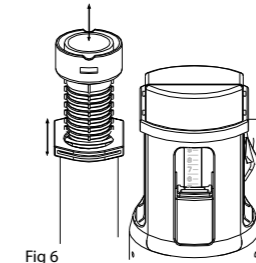

Fig 6
7. To set internal overflow level, measure from the base of cistern to waterline and add 20 to 50mm, ensure that the top of the overflow is a minimum of 10mm below any aperture in the cistern (e.g. fixing holes). To adjust overflow tube slide the overflow tube clip on the flush valve (B) (see **Fig. 6**), raise/lower to suit the installation, when height is set slide the overflow tube clip back to secure.